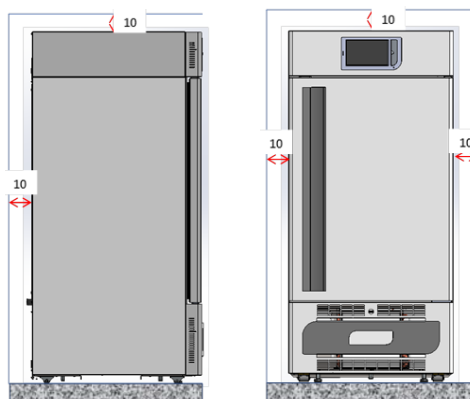

Figure 1 – equipment position
- Position the machine keeping a minimum distance of 10 cm from all walls. If the machine is embedded in any type of furniture, a correct air flow of the condensing unit (compressor/fan motors) must be always ensured. The warranty will immediately expire, if this is not guaranteed. (Figure 1 – equipment position)